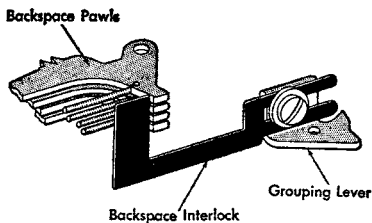

Figure 37. Backspace Interlock Adjustment
8. BACKSPACE INTERLOCK. Adjust so that when actuated, it will safely clear the right side of the backspace pawl spring lugs and keep the backspace pawls out of the escapement rack during any carriage release operation (Figure 37).